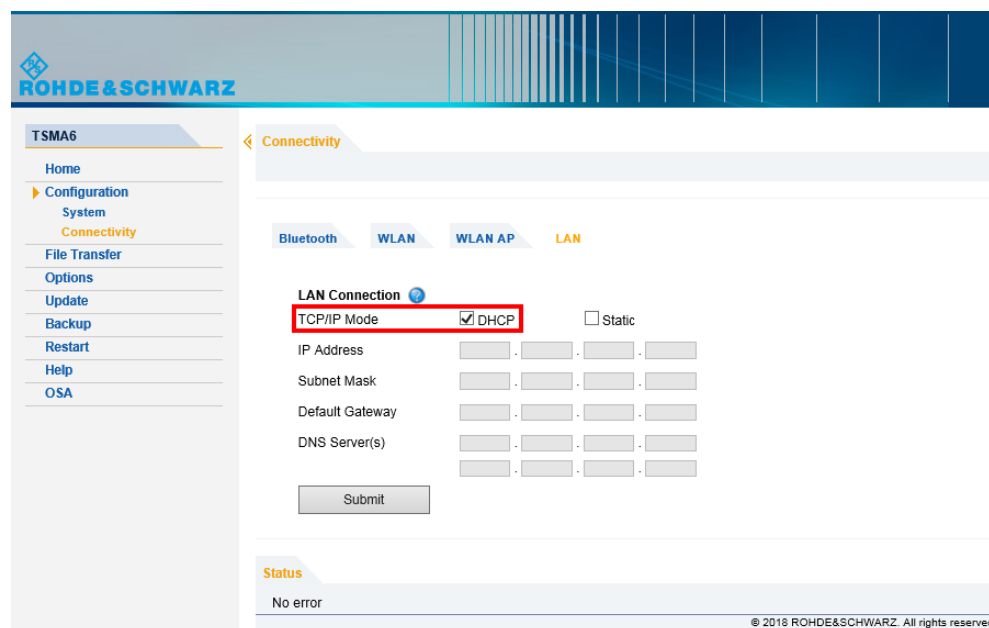

Figure 11-5: Web GUI - LAN Connection
3. Check the setting of the R&S TSMa6 LAN port (see Figure 11-5). The default setting is "DHCP".